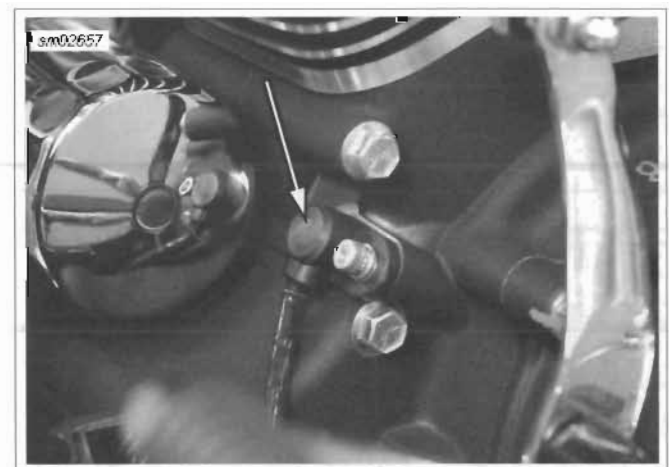

Figure 7-68. Installed CKP Sensor
2. See Figure 7-68. Install **new** CKP sensor with screw and captive washer. Tighten to 90-120 **in-lbs** (10.2-13.6 Nm).